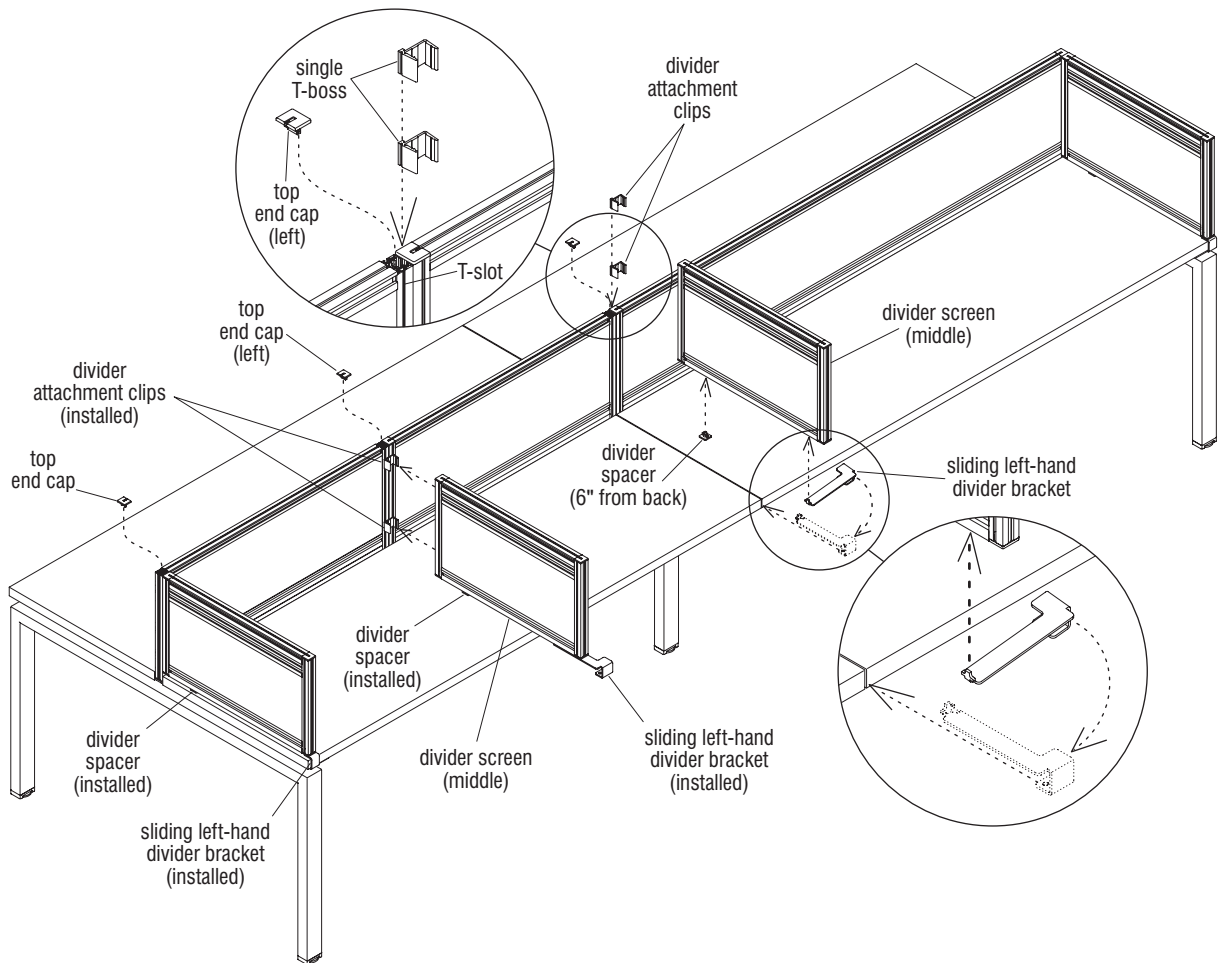

Figure 8 - Dual-Sided Benching with Sliding Worksurfaces - Middle Divider Screens Installation
6. At each union of privacy screens to receive middle divider screen, correctly orient and slide the T-boss of two divider attachment clips down the T-slot (where top end cap was removed) and into position with one above the other as illustrated (Figure 8).
8. of the divider. Once the bracket's T-tab is engaged, rotate the divider bracket back 90° as illustrated to be in line under the divider and hold in place for the next step (Figure 8).
9. Locate a "divider spacer", position it into the horizontal T-slot at the underside of the divider screen **at least 6" from the back** and twist the spacer 90° to lock it in position (Figure 8).
10. Repeat the process for all middle dividers to be installed, then re-install all top end caps that were removed. Go back and adjust all divider spacers and divider attachment clips to be uniform along the run of benching (Figure 8).
and tighten the two set screws at the underside front of the sliding left-hand divider bracket. Only tighten the set screws so the tops of the set screws are flush with the bracket face. Do not over-tighten (Figure 8).